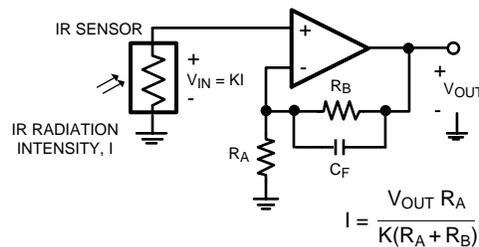

Figure 64. IR Radiation Sensor
The low input bias current and low input referred noise of the LMV791 and LMV792 make them ideal for sensor interfaces. These circuits are required to sense voltages of the order of a few  $\mu\text{V}$ , and currents amounting to less than a nA, and hence the op amp needs to have low voltage noise and low input bias current. Typical applications include infra-red (IR) thermometry, thermocouple amplifiers and pH electrode buffers. Figure 64 is an example of a typical circuit used for measuring IR radiation intensity, often used for estimating the temperature of an object from a distance. The IR sensor generates a voltage proportional to  $I$ , which is the intensity of the IR radiation falling on it. As shown in Figure 64,  $K$  is the constant of proportionality relating the voltage across the IR sensor ( $V_{IN}$ ) to the radiation intensity,  $I$ . The resistances  $R_A$  and  $R_B$  are selected to provide a high gain to amplify this voltage, while  $C_F$  is added to filter out the high frequency noise.